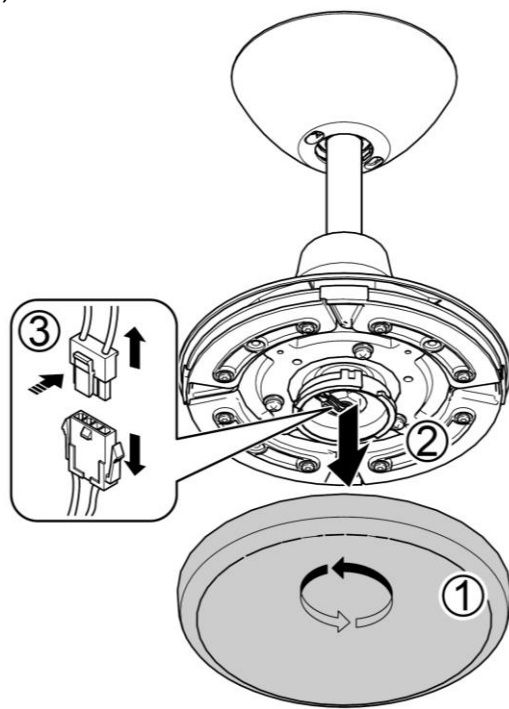

Fig. 5.1
1. Twist the LED lamp anti-clockwise to loosen it. Press the tab on the quick connector to disconnect it, then remove the LED lamp from the motor assembly. (Fig.5.1)